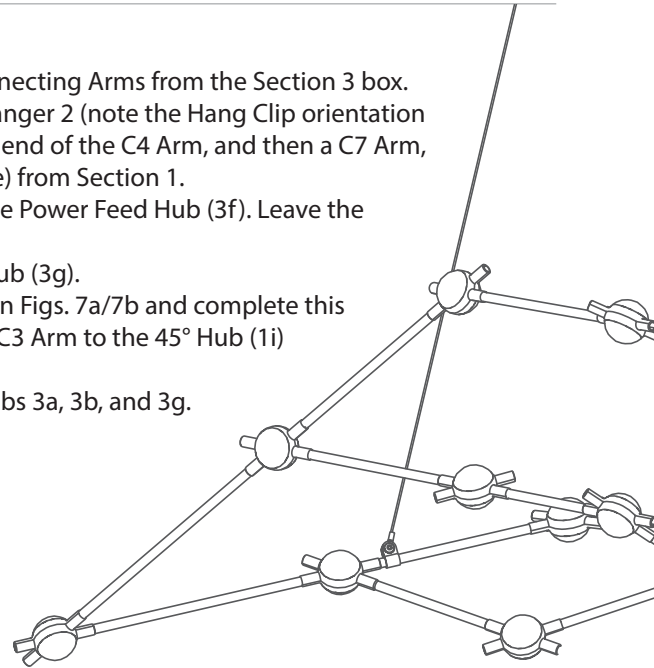

Fig. 7a - Angled Front View
- Continue by connecting Arms and 45° Hubs following the order and pattern in Figs. 7a/7b and complete this section by connecting the C11 Arm to the 45° Hub (2e) from Section 2 and a C3 Arm to the 45° Hub (1i) from Section 1.